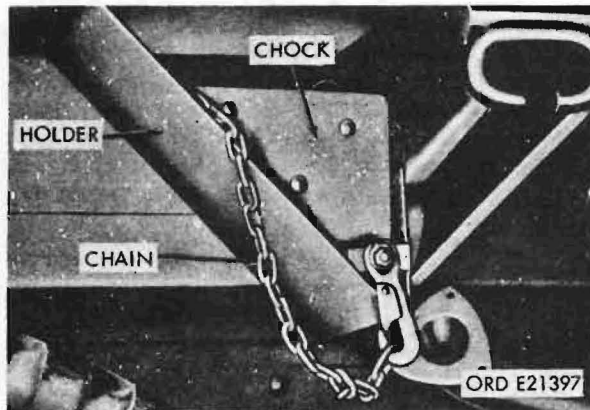

Figure 151. Wheel chock with chain in stowed position
g. Wheel Chocks with Chain. Wheel chocks are triangular wooden blocks used on rear wheels of the vehicle to prevent the V-17A/MTQ truck from moving during rear winch or pole derrick operation. Chocks with chains are secured in stowed position (fig. 151), one on each side of truck, under body shell between rear wheels, by holders and snap catches.